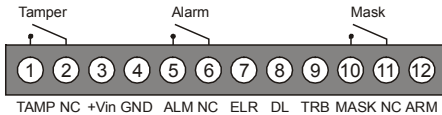

Figure 2: Terminal Block
7. Wire the terminal block as shown in Figure 2.